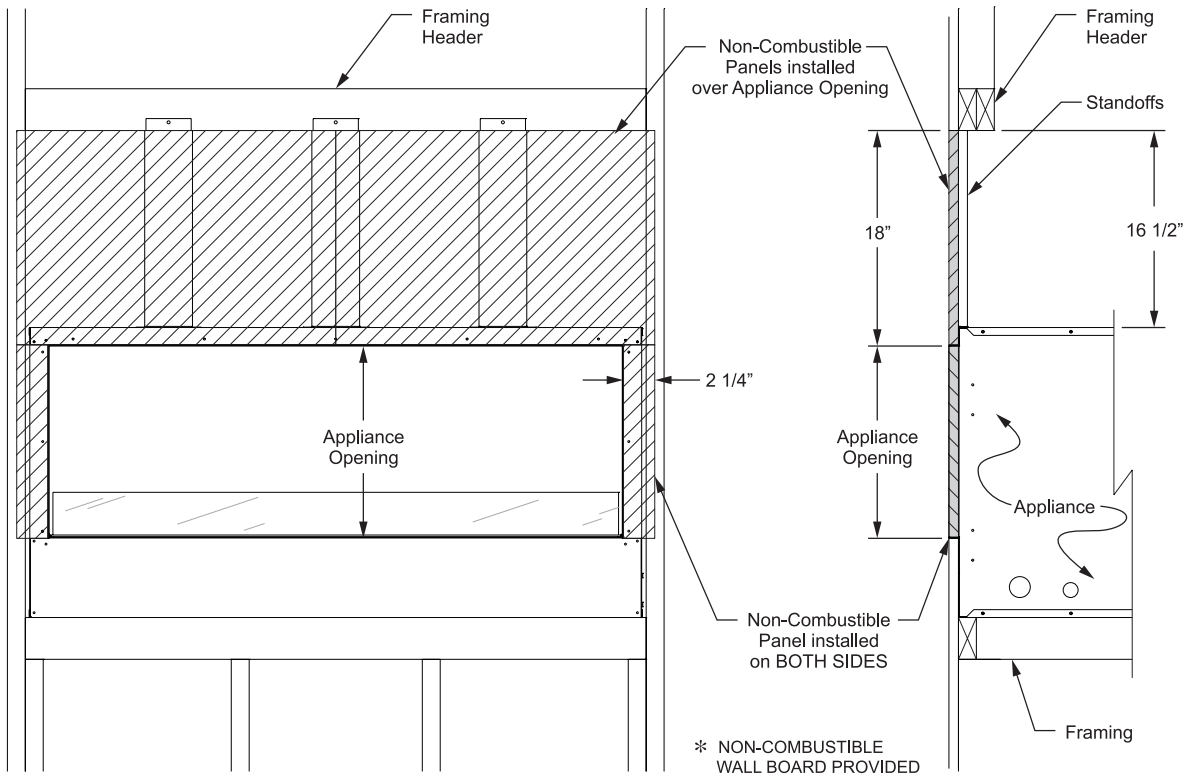

Figure 4
**Note for Figures 4 and 5:** If installing the wall board in the flush face configuration, trim the two top panels to 16-1/2 in. x 26-3/4 in. The smaller non-combustible panels will not be needed.